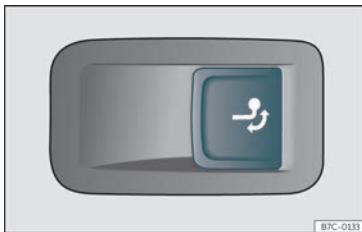

Fig. 250 On the right side of the luggage compartment: button for unlocking the tow ball.
- Pull the >>> **Fig. 250** button briefly. The tow hook unlocks electrically and automatically turns outwards. The button's control lamp flashes.
- Pull the >>> **Fig. 250** button briefly. The tow hook unlocks electrically.
- If the warning light on the button >>> **Fig. 250** → *flashes*, this means that the tow hook has not been attached properly or is damaged >>> .
- If the warning lamp >>> **Fig. 250** → *remains on* with the rear lid open, the tow hook is correctly in place both when extracted and when covered.
- Never press the >>> Fig. 250 button when there is a trailer hooked to the vehicle or when a carrier system or other accessories are mounted on the tow hook.